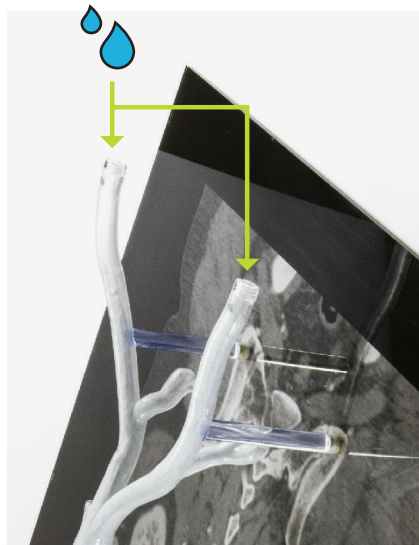

Fig. 1 Water can be inserted here
- 1 Carefully invert the model so that the iliacs are facing upwards and gently fill the model with water via the end holes. The easiest way to fill the model is using a thin funnel or syringe. (Fig. 1)